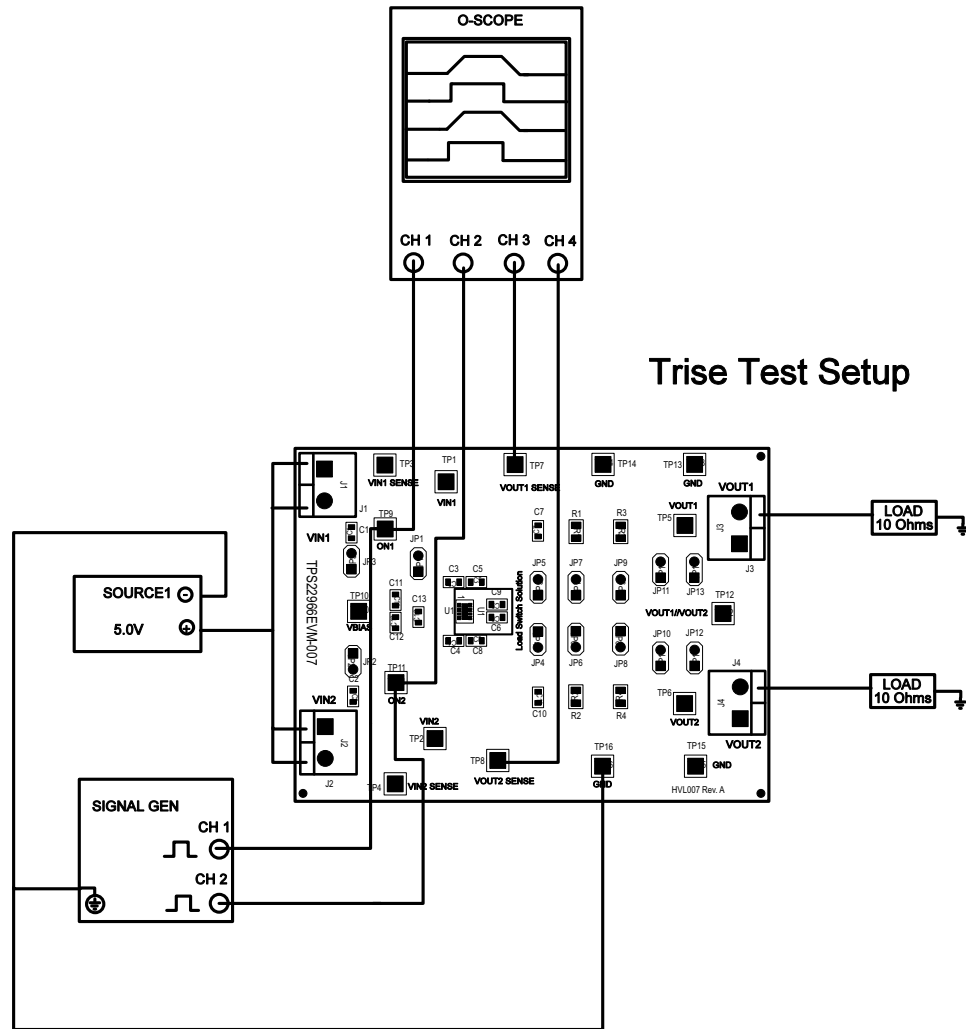

Figure 6. TPS22968EVM-007 Recommended Trise Test Set Up
2. Set up the EVM per Figure 6